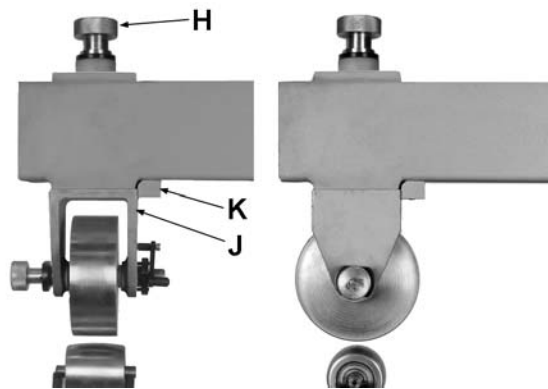

Figure 6-4
1. Turn adjustment knob (H, Figure 6-4) counterclockwise until upper wheel housing (J) clears frame block (K).
2. Turn upper wheel housing 90-degrees, and raise it by turning adjustment knob (H) clockwise until housing is properly seated.